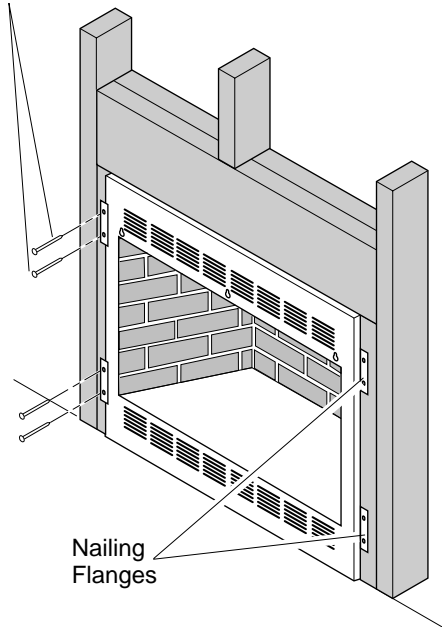

Figure 18 - Attaching Firebox to Wall Studs
6. Attach firebox to wall studs using nails or wood screws through holes in nailing flange (see Figure 18, page 11).